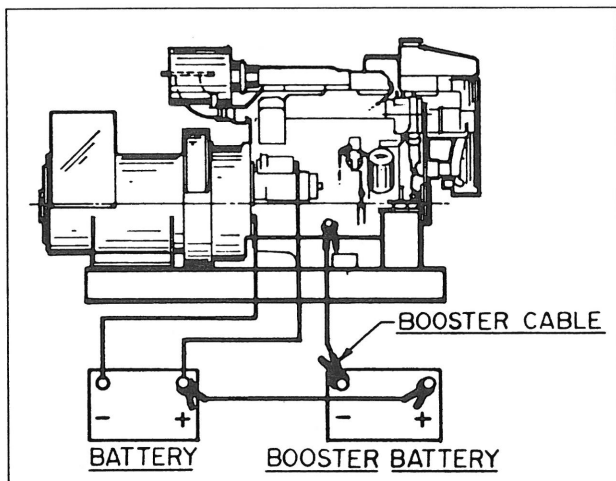

Figure 20. Battery Connections
4. First, connect positive (+) terminal of booster battery to positive (+) terminal of main battery. Then, connect negative (-) terminal of booster battery to ground on the engine block. (See Figure 20.)